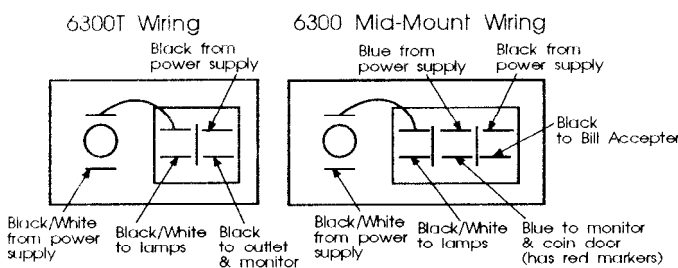

Fig. 1B
9. Connect the leads from the main harness to the switch/fuse assembly, as shown in Fig. 1B.